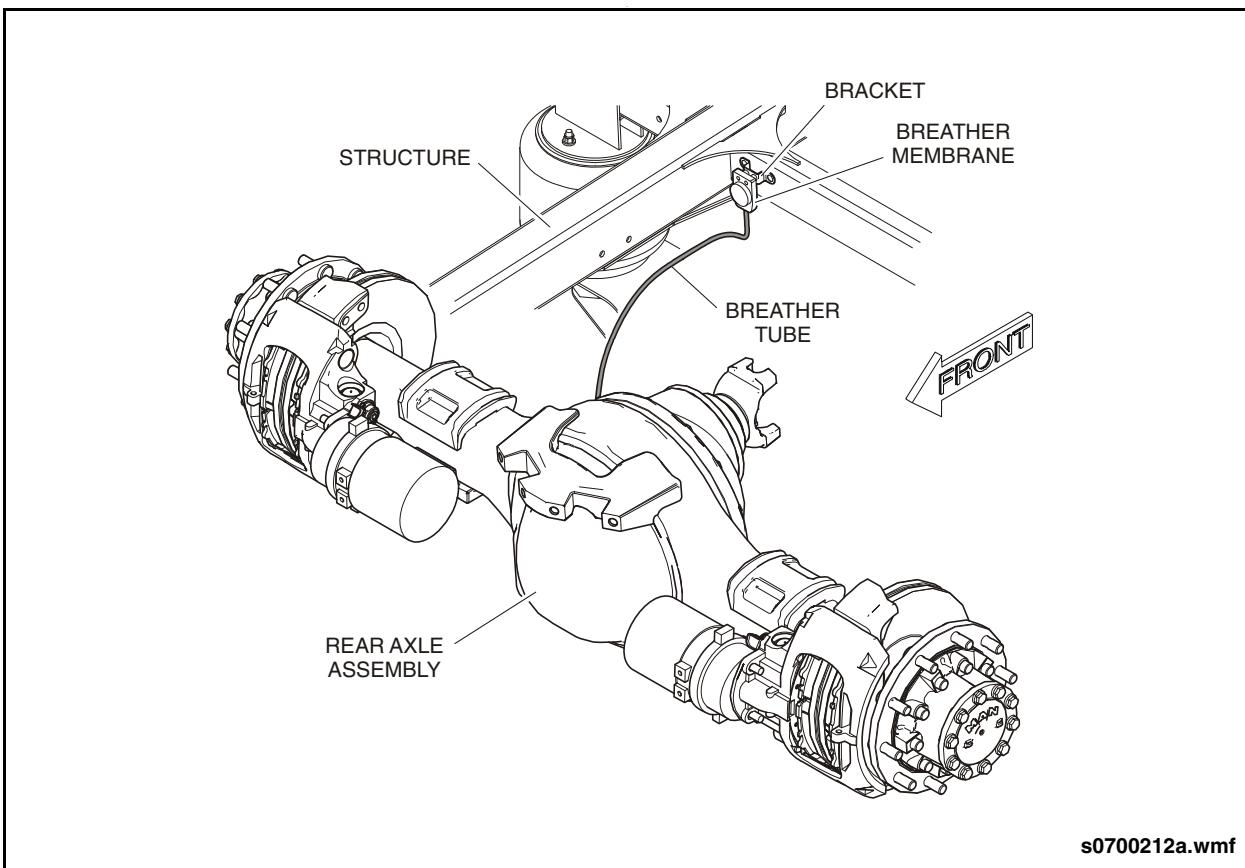

Fig. PM-30: Rear Axle Breather Inspection
- Check that the breather tube is securely attached to the elbow located on top of the differential housing and is attached to the breather membrane, located on the street-side suspension support. See "Fig. PM-30: Rear Axle Breather Inspection" on page 61.